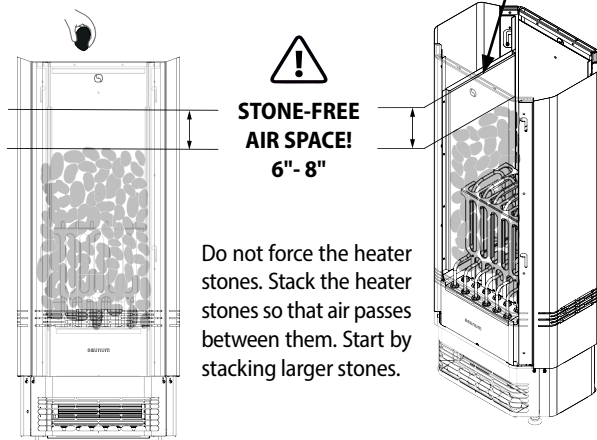

Figure 8
3. Fill the stone basket by hand with heater stones up to the openings of the air ducts (6"–8") as shown in **Figure 8**.